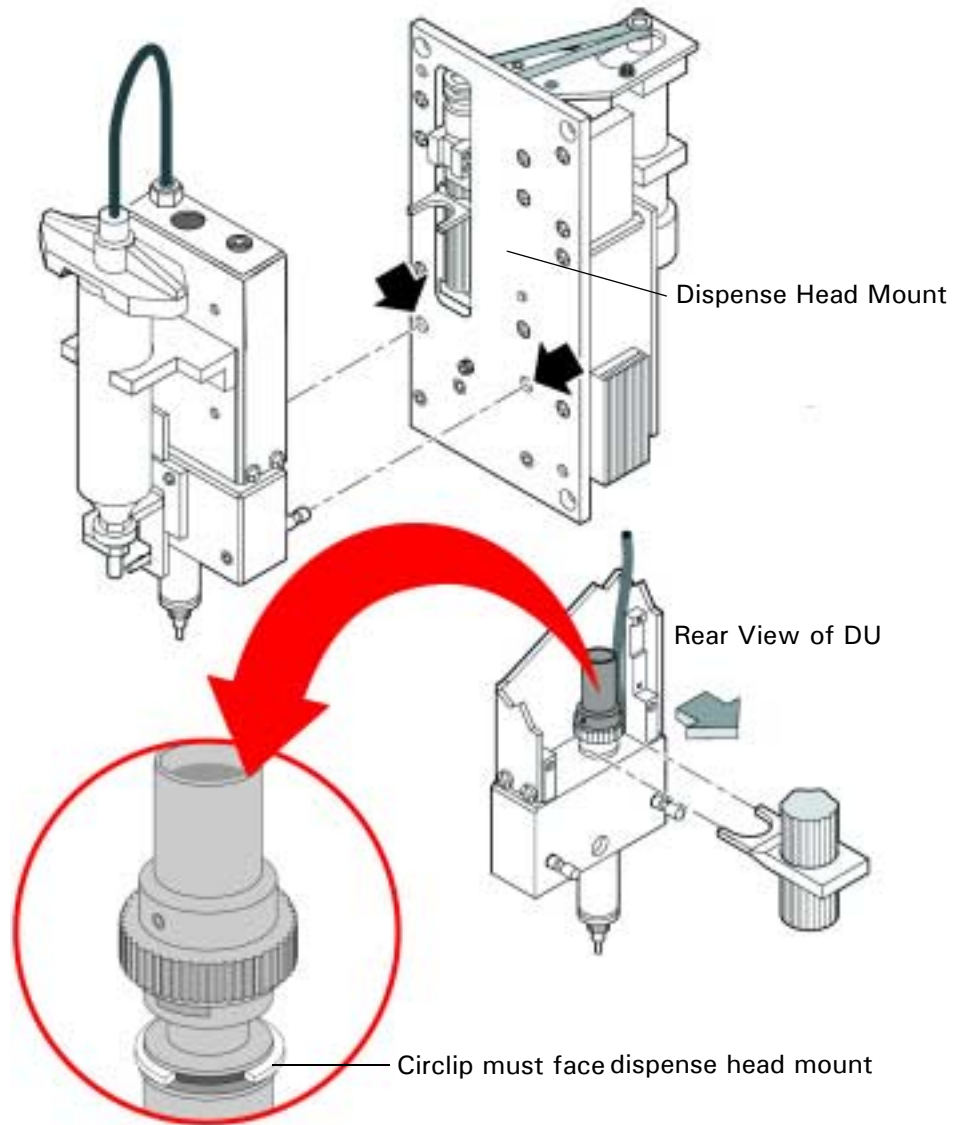

Figure 5
7. The open side of the circlip at the top of the sleeve should face the dispense unit housing. See Figure 5.
The U-shaped yoke on head and the matching groove on sleeve of dispense unit should be properly aligned with each other. See Figure 5.